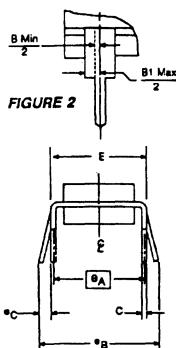

FIGURE 2
- Corner leads (1, N, N/2 and N/2 + 1) may be configured as shown in Figure 2.